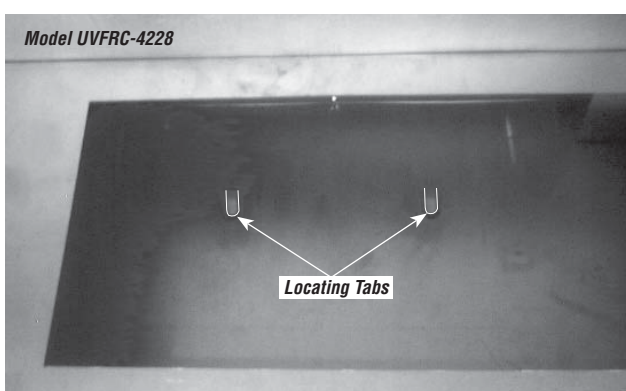
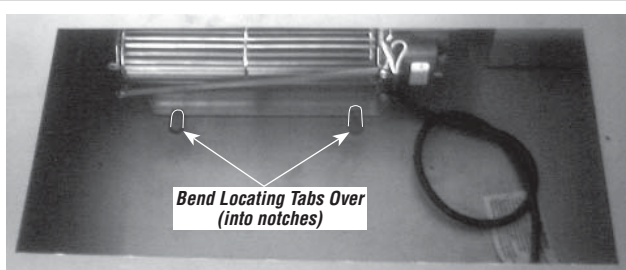

Figure 23 - UVFRC-4228 Shown
Figure 24 - UVFRC-4228 Shown
Step 4. Locate the tabs shown in **Figure 23**. Position the blower assembly so that the tabs (located on the cabinet base) are seated in the notches of the blower bracket. Bend the tabs over to secure the blower assembly (see **Figure 24**).